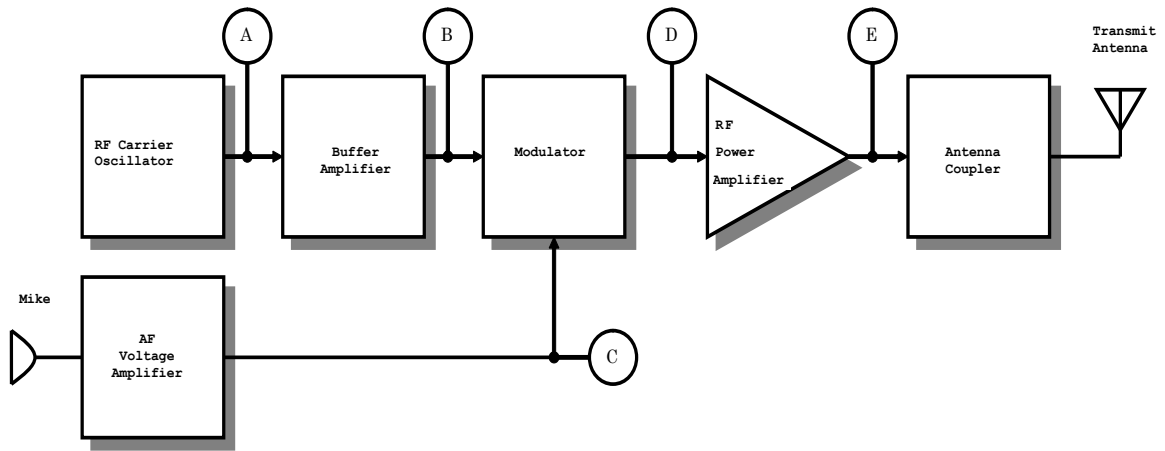

Figure 4-1: Low Level AM Transmitter Block Diagram
Figure 4-1 shows the block diagram of a low-level AM transmitter. It's very similar to the AM transmitter we studied in chapter 1.
- 4-3 What signal appears at test point C in Figure 4-1?